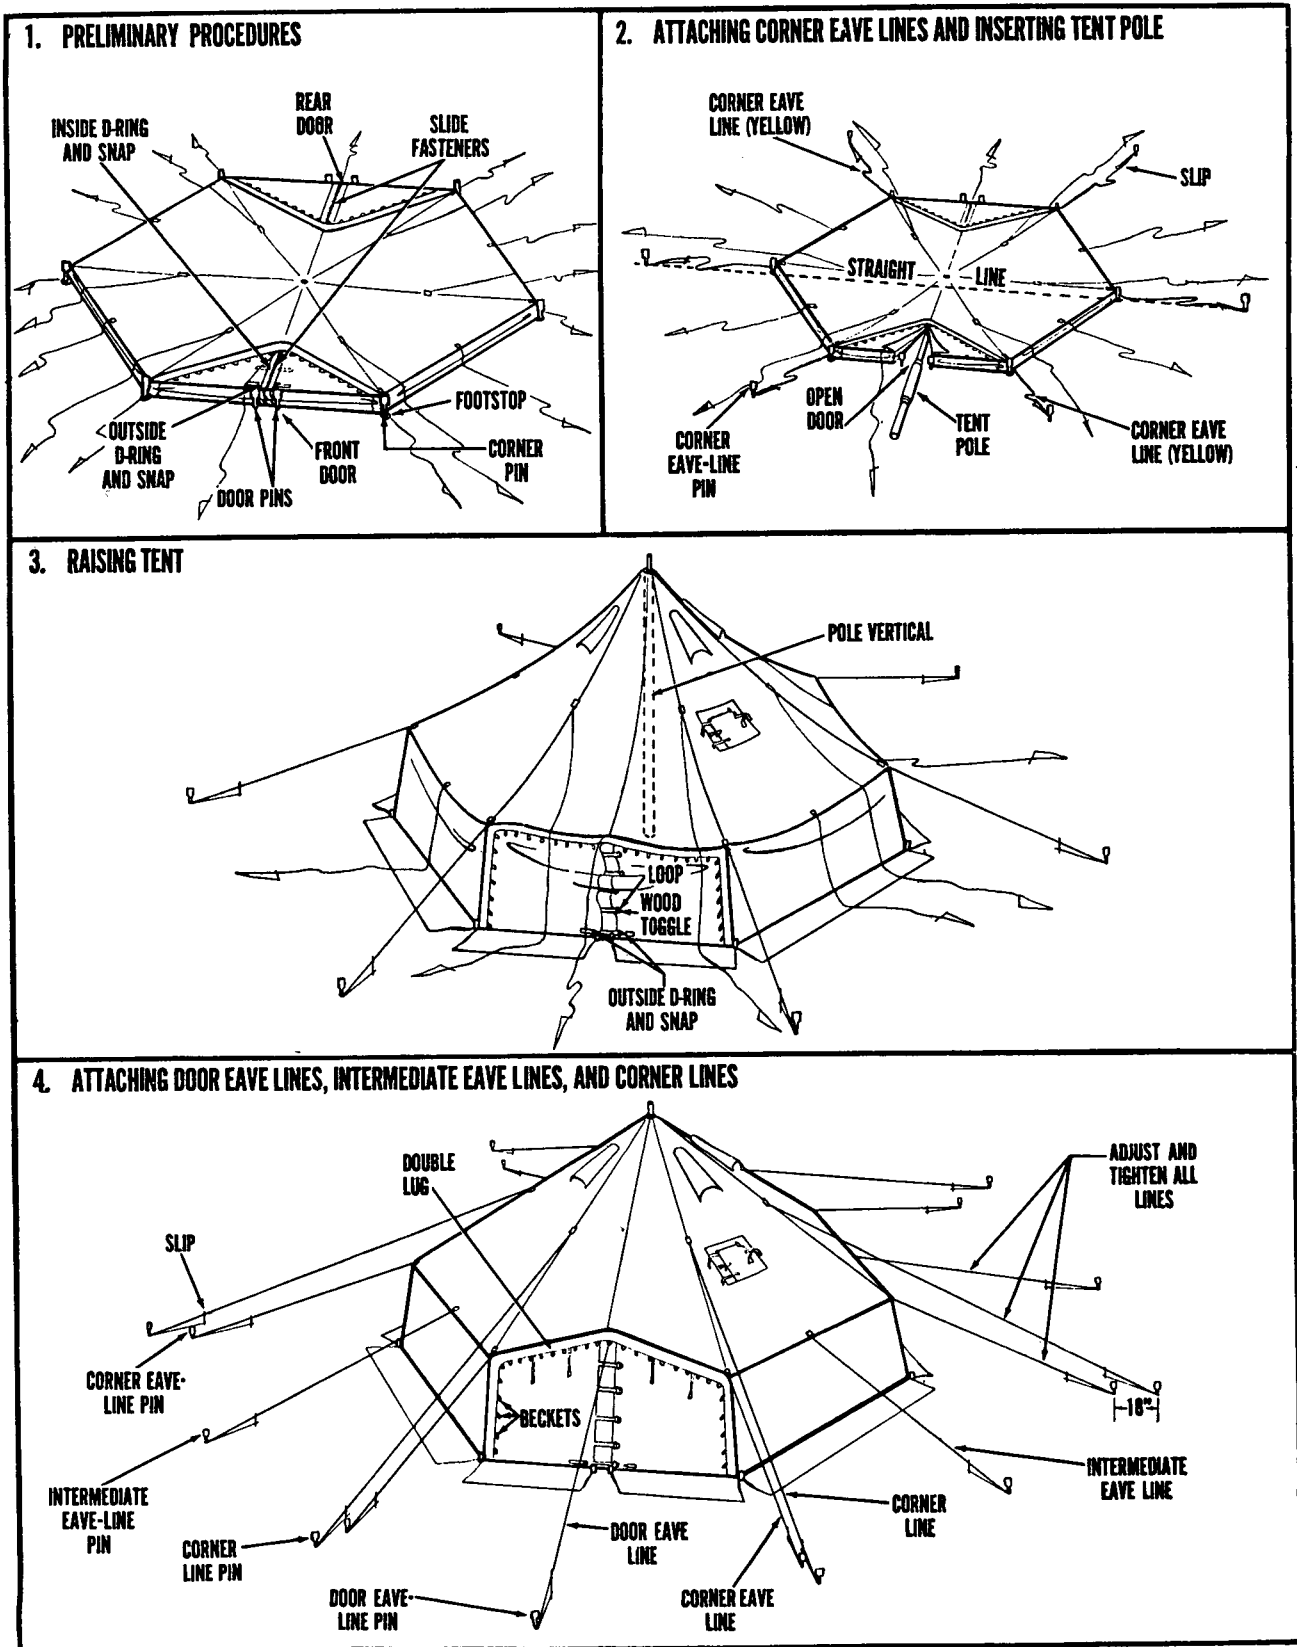
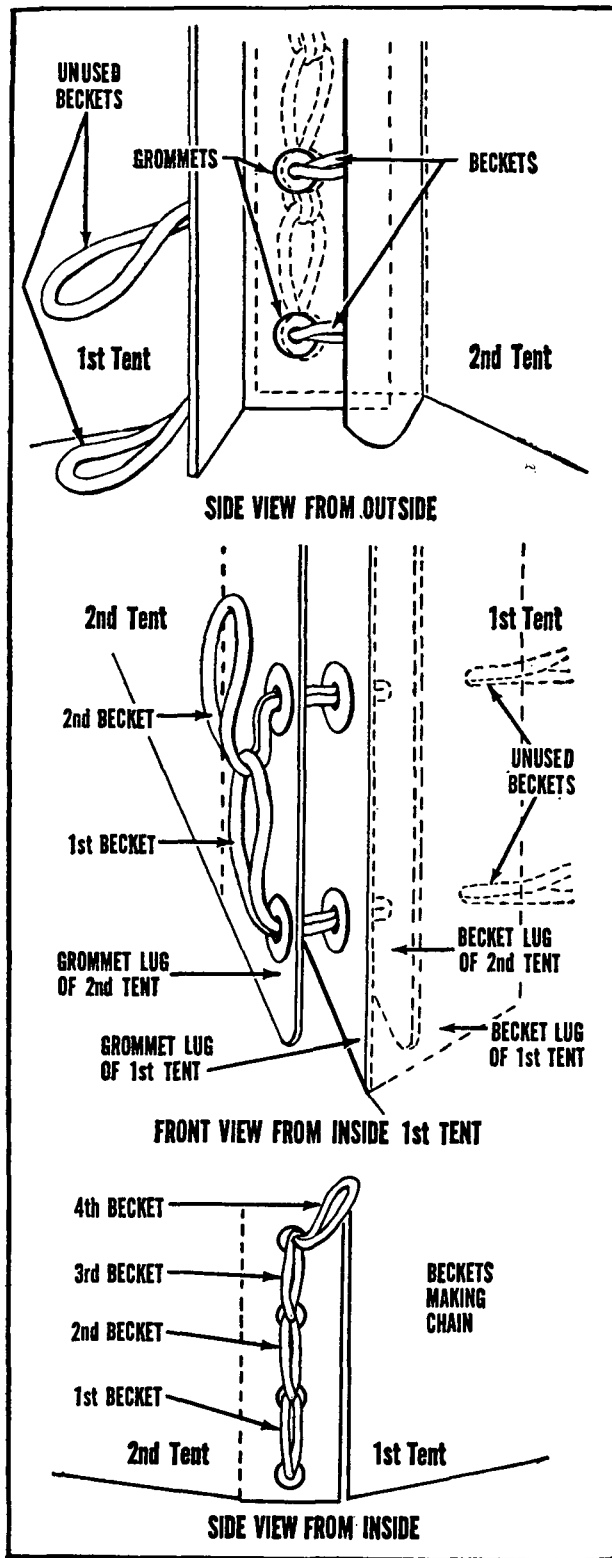

Figure 3. Steps in pitching tent, arctic, 10-man.
Figure 4. Joining two tents together by chain-lacing beckets through grommets.
(1) *Preliminary procedures* (1, fig. 3).
(2) *Attaching corner eave lines and inserting tentpole* (2, fig. 3).
(3) *Raising tent* (3, fig. 3).
(4) *Attaching door eave lines, intermediate eave lines, and corner lines* (4, fig. 3).
(7) *Joining two tents together.* When two tents are to be joined together, erect the first tent described above. Fasten lugs (4, fig. 3) at front or rear of tents together by inserting grommet lug of one tent between grommet lug and becket lug of other tent, and chain-lace beckets (4, fig. 3) on lug of one tent through grommets on each lug of both tents (fig. 4). Begin chain-lacing at bottom (near the ground) of lugs and continue until bottom (near the ground) at the other end of the same lugs is reached, securing last becket with a knot. Then erect second tent in the same manner as first tent.